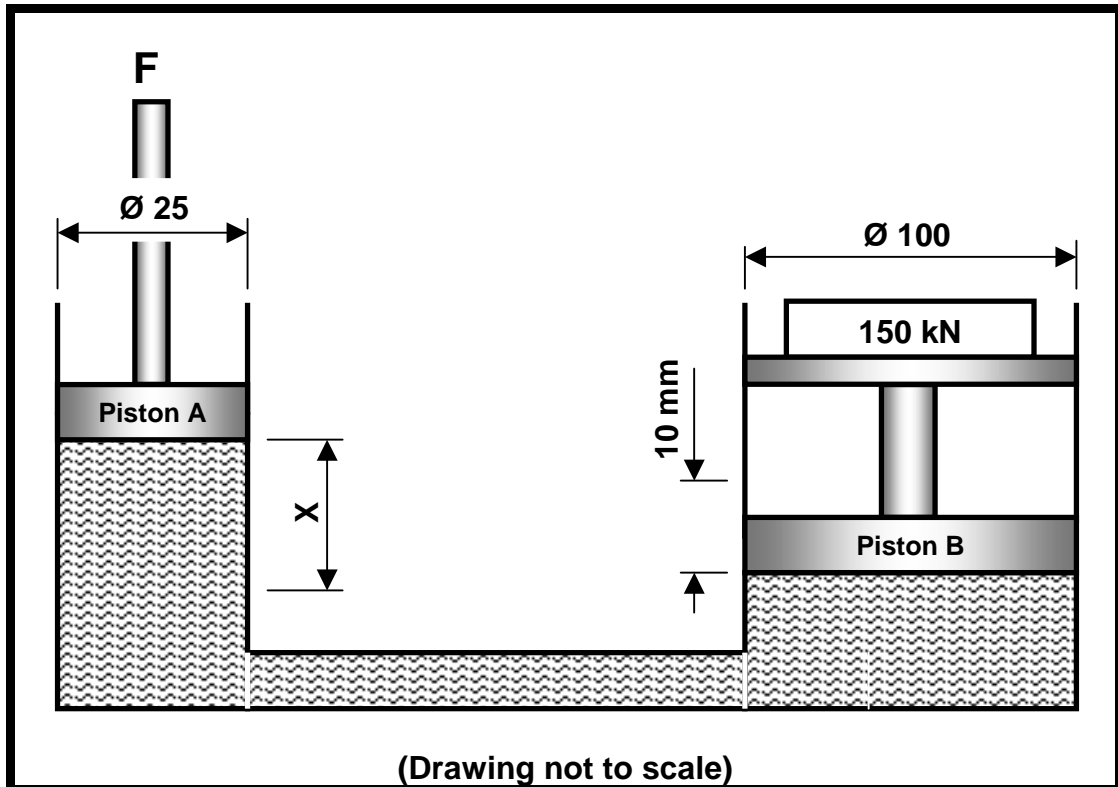

FIGURE 2.1
2.1 A hydraulic press is used to insert machine parts into position during the assembly process. The specifications of the system are diagrammatically presented in FIGURE 2.1.